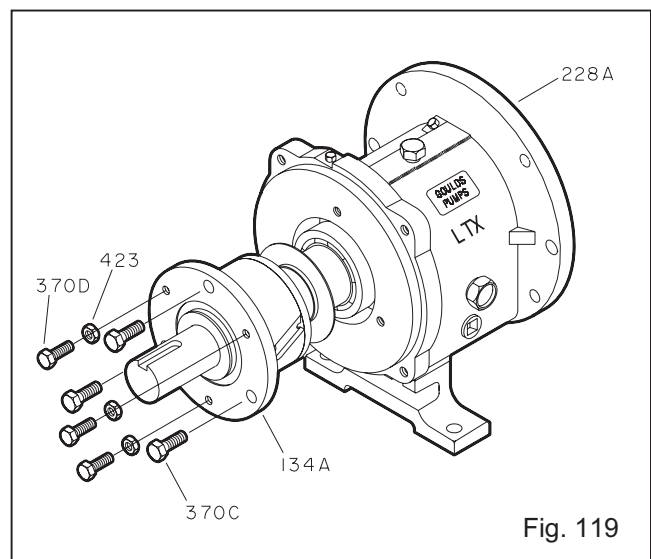

Fig. 119
15. Coat all internal surfaces of bearing frame (228) with oil.
16. Install shaft assembly into frame (228A), making sure to leave approximately 0.125 in. (3.175 mm) clearance between the face of the bearing housing and bearing frame. Check shaft for free turning (Fig. 119).
18. Install jacking bolts (370D) with locking nuts (423) into housing (134A). Hand tighten.